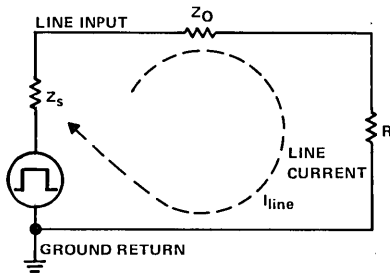

Figure 33. Diagram Representing a Gate Driving a Transmission Line
The total propagation delay is of secondary importance in generation of internal noise. The actual transition time determines the amplitude and frequency spectrum of the generated signal at the higher harmonics. Application of the Fourier integral to series 'ALS/'AS waveforms shows frequency components of significant amplitude that exceed 100 MHz. Because of the frequency spectrum generated when an 'ALS/'AS device switches, a system using these devices must consider problems caused by radio frequency (RF) even though the repetition rates may be only a few megahertz. The transient currents generated by charging capacitors, changes in the levels of dc, line driving, etc., must be considered. In Figure 33 for example, a gate driving a transmission line is represented by a voltage source E, having an output impedance Z_S connected to an impedance Z_0 , and loaded with a resistance R_L .